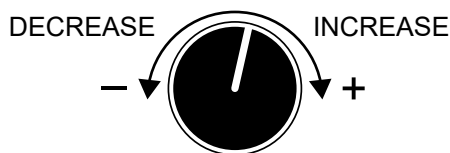

Figure 53. Voltage Regulator
7. If the voltage is not within the specified tolerance, use the **voltage regulator** (Figure 53) to increase or decrease the desired voltage.